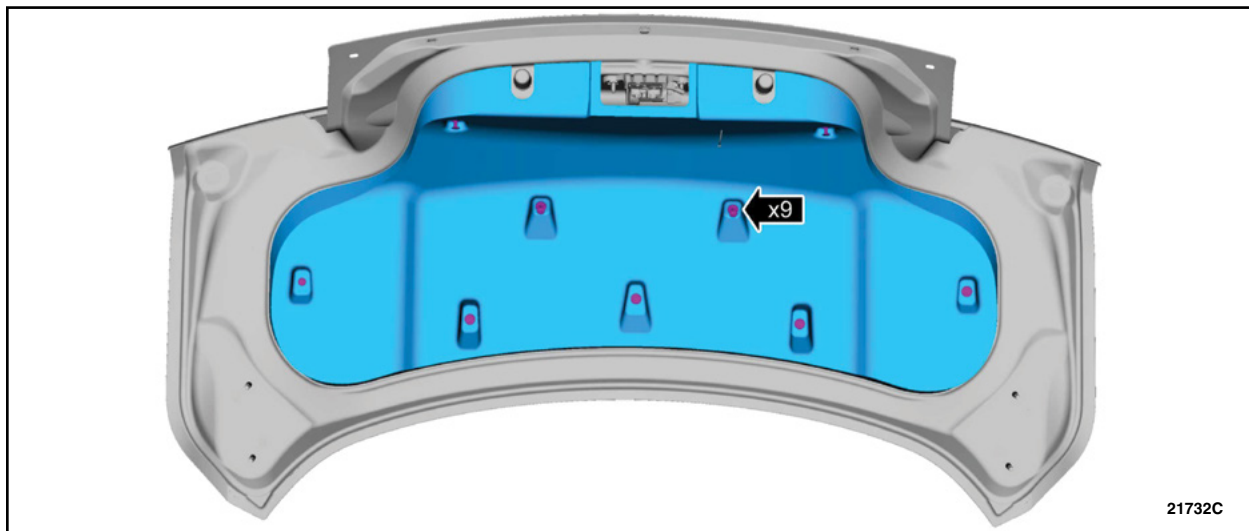

FIGURE 8
20. Remove the retainers and remove the luggage compartment lid trim panel. See Figure 8.